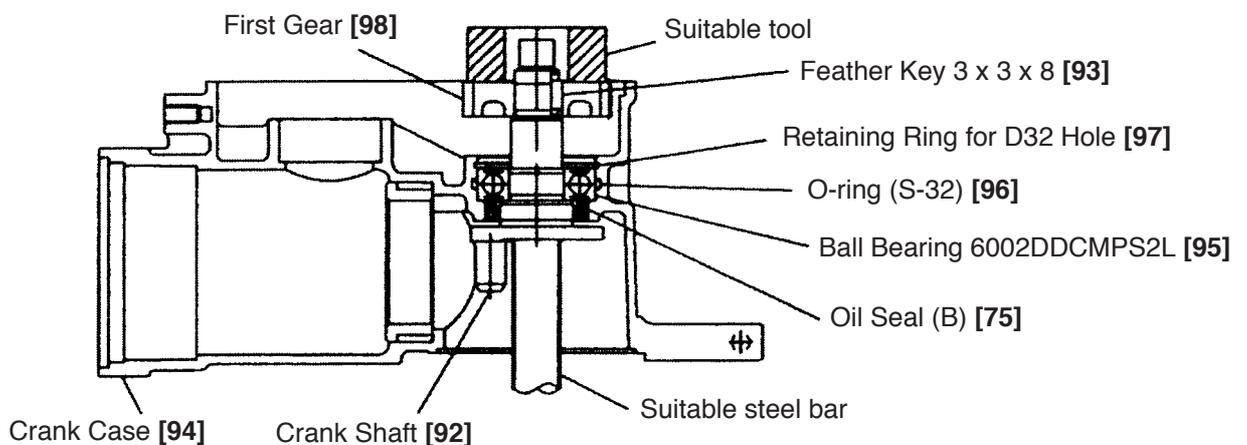

Fig. 21
(1) Mouting the First Gear [98] and the Crank Shaft [92]
Press-fit Oil Seal (B) [75] in the Crank Case [94] then the O-ring (S-32) [96] is fitted in the groove inside the Crank Case [94]. Press-fit the Ball Bearing 6002DDCMPS2L [95] in the Crank Case [94] then the Retaining Ring for D32 Hole [97] is fitted in the groove inside the Crank Case [94]. Press-fit the Crank Shaft [92] in the Ball Bearing 6002DDCMPS2L [95]. Put the Feather Key 3 x 3 x 8 [93] into the groove of the Crank Shaft [92] and press-fit the First Gear [98] with a suitable tool while holding the flat portion of the Crank Shaft [92] with a steel bar. Before press-fitting, make sure that the Feather Key 3 x 3 x 8 [93] fits in the key groove of the First Gear [98]. (Fig. 21)